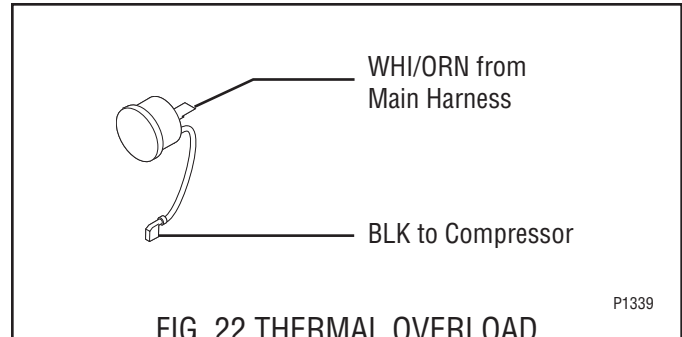

FIG. 22 THERMAL OVERLOAD PROTECTOR TERMINALS
1. Remove terminal cover retainer (5) and terminal cover (4).
4. Remove overload protector retainer (3) and thermal overload protector (2) as an assembly.
5. Remove retainer (3) from overload protector (2) and discard overload protector.
6. Install retainer (3) on new overload protector (2).
7. Install retainer (3) and overload protector (2) on the compressor terminal bracket.
8. Refer to Fig. 22 and reconnect the thermal overload protector wires.
9. Reinstall terminal cover (4) and cover retainer (5).